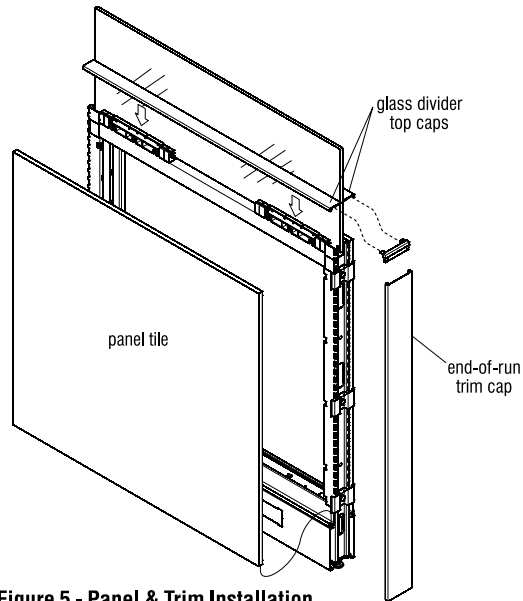

Figure 5 - Panel & Trim Installation
7. Center the glass divider top caps over the top of the panel frame, on both sides of the glass divider as illustrated. Gently press the caps down to engage the top caps to the mounting blocks (Figure 5).
3. To keep worksurfaces level, install a small splice plate between worksurfaces as illustrated. Position the splice plate centered under the installed worksurfaces and use mounting holes as template, then mark mounting hole locations. Pre-drill 1/8" diameter mounting holes to a depth of 1/2" only, taking care to not drill too deep which may damage the worksurface (Figure 5).
4. Install small splice plate to underside of worksurfaces using four #12 x 3/4" screws. Take care to not over-tighten screws (Figure 5).